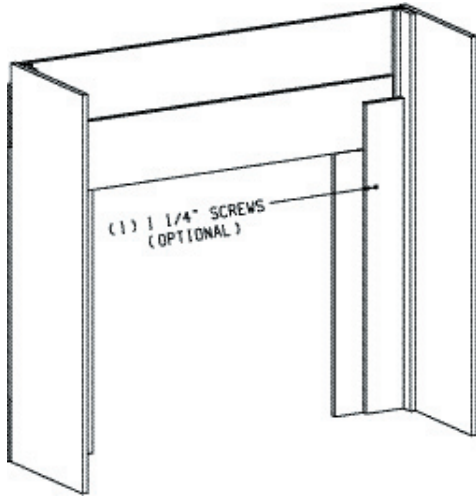

Figure 4
- Secure slider panel sides left and right to mantel with one (1) 1-1/4" screw per side (See Figure 4).